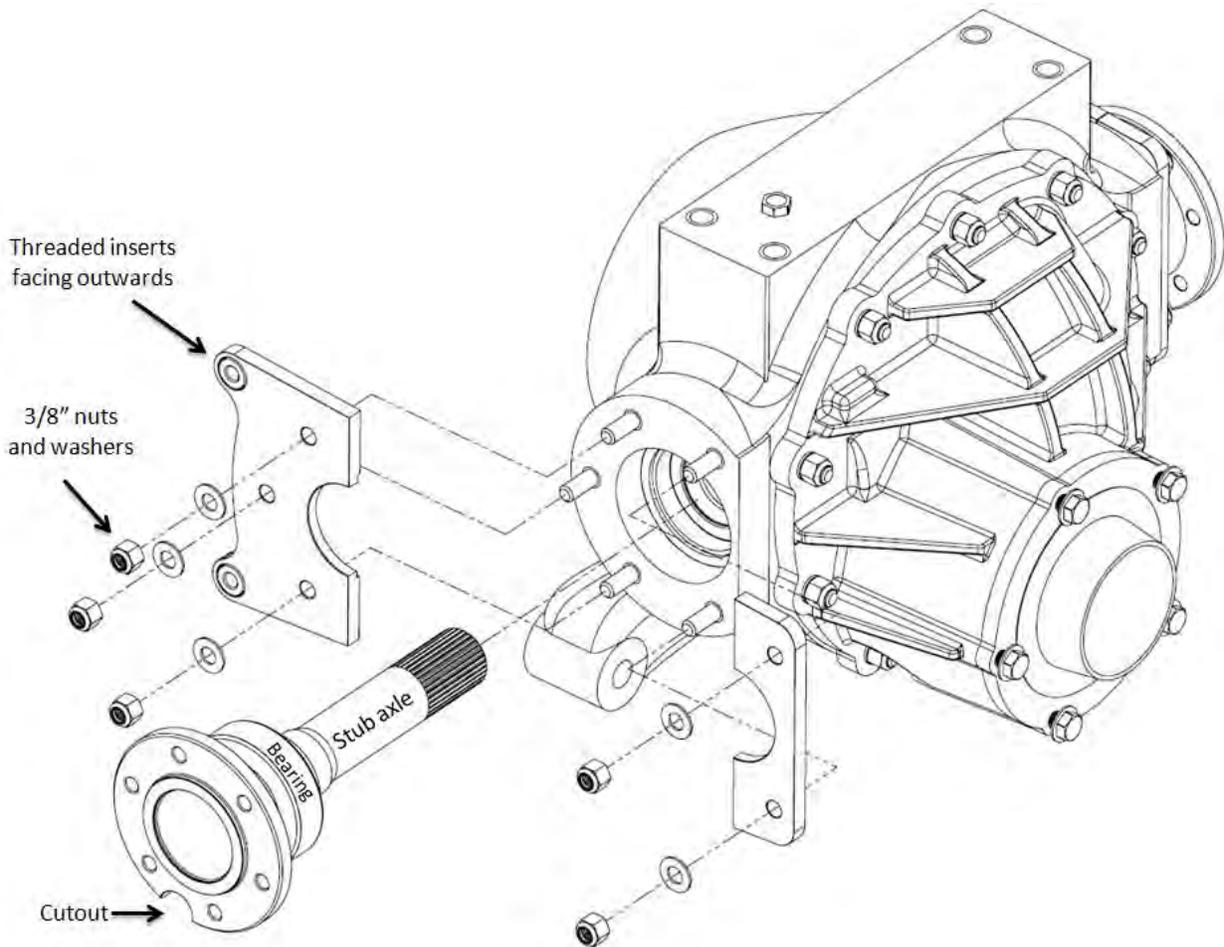

Figure 9. Passenger side axle (longer axle) being installed with the caliper plates (some parts removed for clarity).
- 14) Apply a small amount of white grease to the splines and seal area of the stub axles and seal lips. The longer axle installs on the passenger side. Carefully slide the axle assembly into the housing until the bearing bottoms out. Install the caliper plates and front plates onto the studs, with the threaded inserts in the caliper plates facing outwards, see Figure 9. Secure the plates using the supplied 3/8" Nyloc nuts and washers. There is a circular cutout in the stub axle flange that lines up with the studs so a socket can be used for the lock nuts. If a parking brake is being installed, the parking brake caliper mounting plates will replace the front plates.